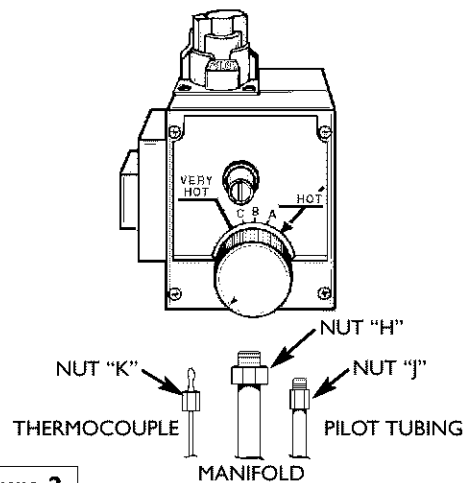
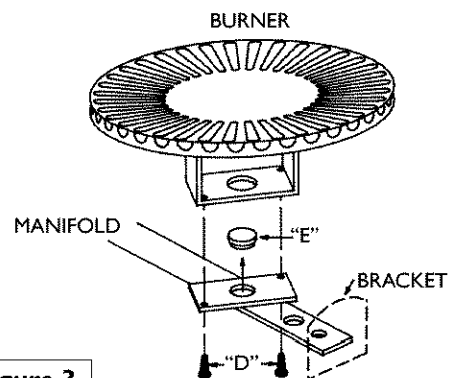

Figure 2
Figure 3
- Step 3. Remove burner assembly from water heater and control by loosening $\frac{3}{8}$ " nut “H” holding burner assembly to control. (See Figure 2, page 17). Loosen pilot tube nut “J” and thermocouple nut “K” at control.
- Step 4. Remove screws “D” disengaging manifold from burner. (See Figure 3, page 17)
- Step 5. Remove orifice “E” (See Figure 3, page 17) using $\frac{3}{8}$ " wrench. Install orifice marked “L.P.” found in the bag into manifold. Tighten securely. Secure burner to manifold with screws “D”.
- Step 7. Make sure all connections are tightened securely, and reinstall burner assembly into water heater. Position end of the manifold inside bracket as shown in Figure 3 on page 17. Reinstall manifold into control and tighten $\frac{3}{4}$ " nut (“H”) securely. Recheck to see that end of manifold is still inside bracket as shown in Figure 3 on page 17. Reinstall pilot tubing and thermocouple into control. (See Figure 2, page 17)
- Step 14. Push in control knob all the way and hold down. Immediately light the pilot with a match. Continue to hold control knob in for about one (1) minute after the pilot is lit. Release knob and it will pop back up. Pilot should remain lit. If it goes out, repeat steps 10 through 14.
- Step 15. Check for gas leaks with only pilot flame burning using a soapy water solution, not a match or open flame. Check for gas leaks at fittings “F” and “G” (See Figure 4, page 17) and at fitting “J” (See Figure 2, page 17).
- Step 19. With a soapy water solution, not a match or open flame, check for gas leaks at gas connection “H”. (See Figure 2, page 17). If gas leak occurs, turn off immediately by shutting off gas cock at inlet to control, or by turning gas control knob (↻) to “PILOT” pushing down and turning to “OFF”. Repair gas leak as necessary, and repeat steps 9 through 19.